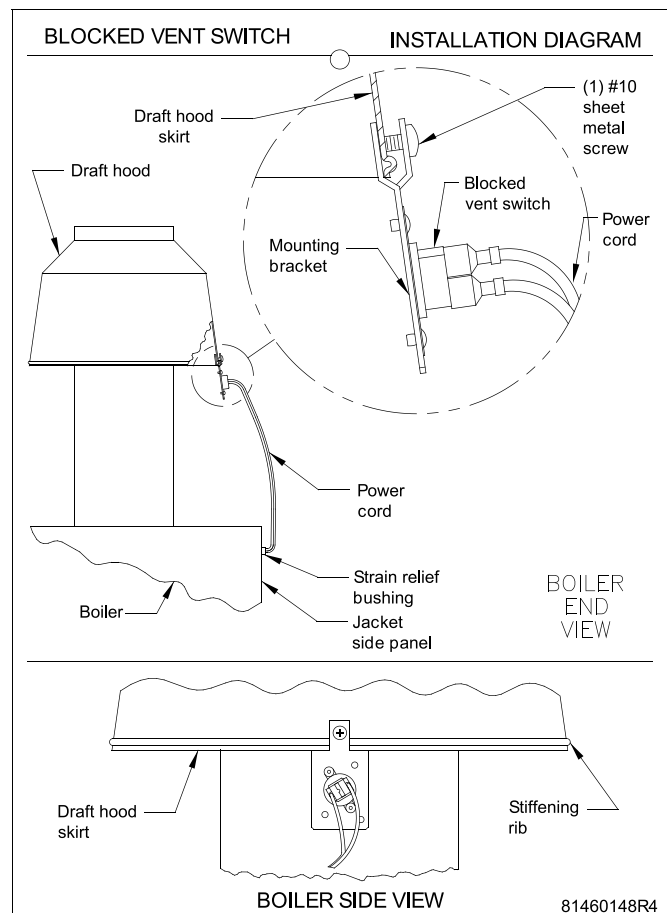

Figure 5-1: Blocked Vent Switch Installation
2. Position mounting bracket onto lower edge of Draft Hood skirt. Locate center tooth (with #10 sheet metal screw) on outside and other two teeth inside Draft Hood skirt. See Figure 5-1.
7. Verify power cord, mounting bracket, and Blocked Vent Switch are secure and located as shown in Figure 5-1.